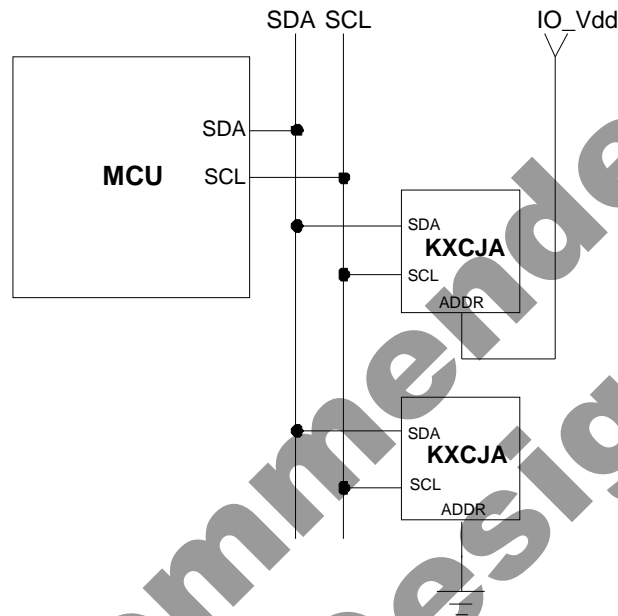

Figure 1. Multiple KXCJA I2C Connection
Transactions on the I2C bus begin after the Master transmits a start condition (S), which is defined as a high-to-low transition on the data line while the SCL line is held high. The bus is considered busy after this condition. The next byte of data transmitted after the start condition contains the Slave Address (SAD) in the seven MSBs (Most Significant Bits), and the LSB (Least Significant Bit) tells whether the Master will be receiving data '1' from the Slave or transmitting data '0' to the Slave. When a Slave Address is sent, each device on the bus compares the seven MSBs with its internally stored address. If they match, the device considers itself addressed by the Master. The KXCJA's Slave Address is comprised of a programmable part and a fixed part, which allows for connection of multiple KXCJA's to the same I2C bus. The Slave Address associated with the KXCJA is 000111X, where the programmable bit, X, is determined by the assignment of ADDR (pin 8) to GND or IO\_Vdd. Figure 1 above shows how two KXCJA's would be implemented on an I2C bus.